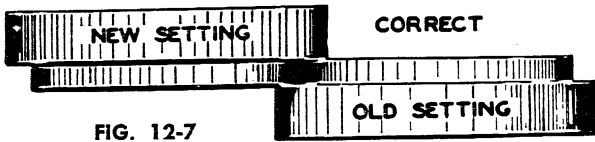
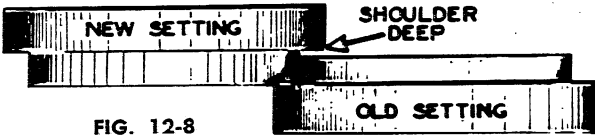
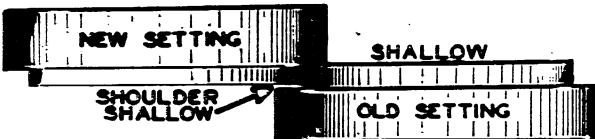

FIG. 12-7
FIG. 12-8
FIG. 12-9
Figure 12-7 illustrates a method of determining whether or not the shoulder on the new setting is exactly the same as the shoulder on the old setting. Figure 12-8 shows the old setting in comparison with one in which the shoulder is cut too deep. Figure 12-9 illustrates too shallow a shoulder. The only way a student could rectify these errors would be to return the setting to his supply house with complete instructions, thus enabling them to make the corrections. When you have progressed into your lathe work, you will learn how to correct a setting that does not conform to your requirements.
6. Compare shoulders (figure 12-7).